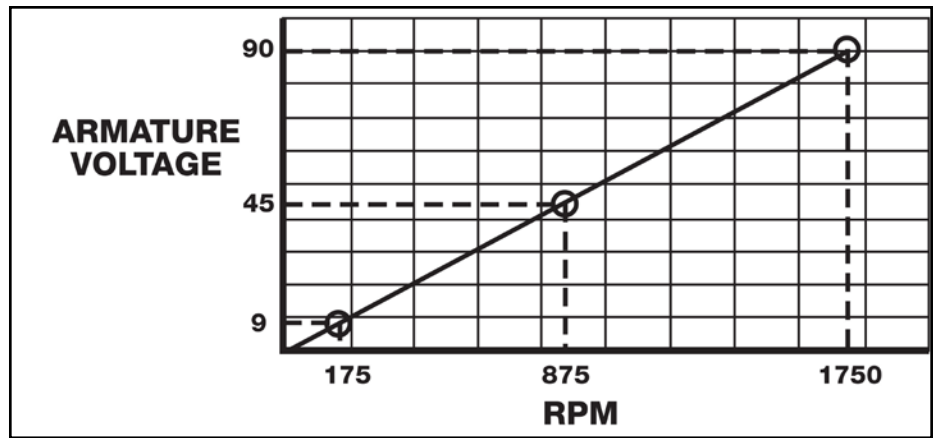
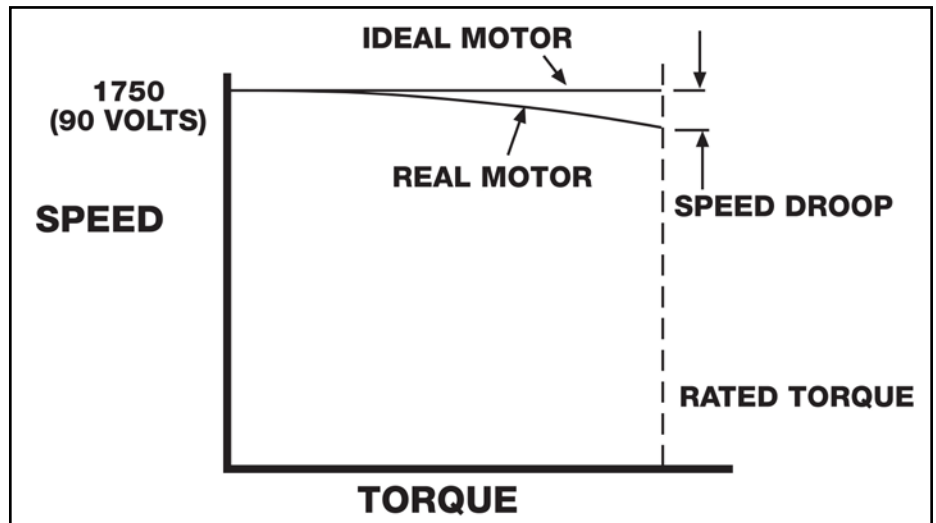

Figure 1 Typical voltage/speed curve for motor operating from 115 volt control.
Figure 2 When operated at a fixed, applied voltage with a gradually increasing torque load, DC motors exhibit a speed droop.
**DC motors.** Basic DC motors, as used on nearly all packaged drives, have a very simple performance characteristic—the shaft turns at a speed almost directly proportional to the voltage applied to the armature. Figure 1 shows a typical voltage/speed curve for a motor operating from a 115-volt control.
From this example a general statement can be made that DC motors have “no load” characteristics that are nearly a perfect match for the curve indicated in Figure 1. However, when operated at a fixed applied voltage, and with a gradually increasing torque load, they exhibit a speed droop (Fig. 2).